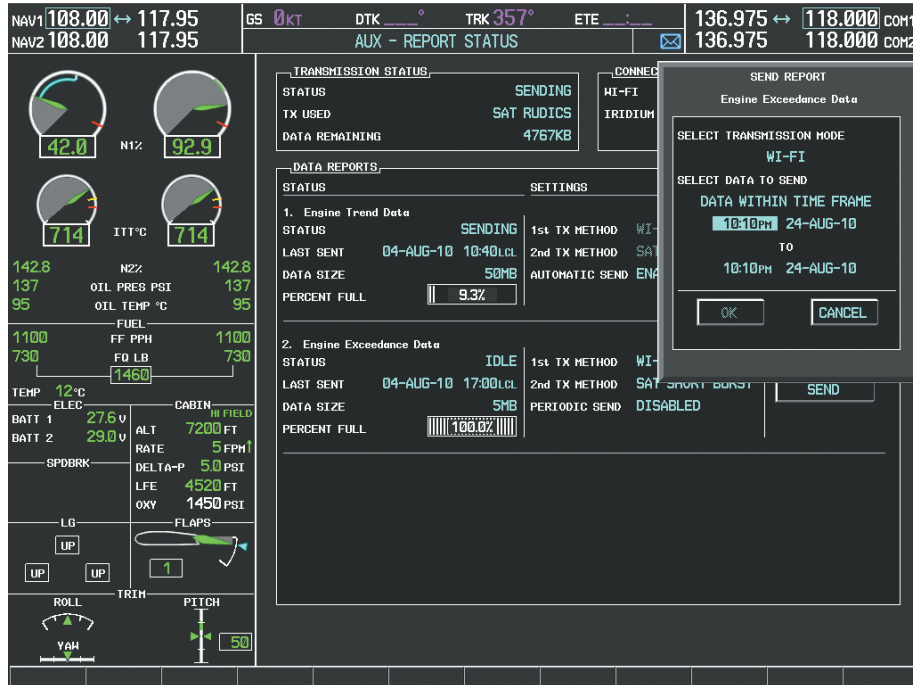

Figure 8-118 Set Starting & Ending Time or Date for Time Frame
- 6) Press the **ENT** Key. The time frame selection fields are now displayed as shown in Figure 8-118.